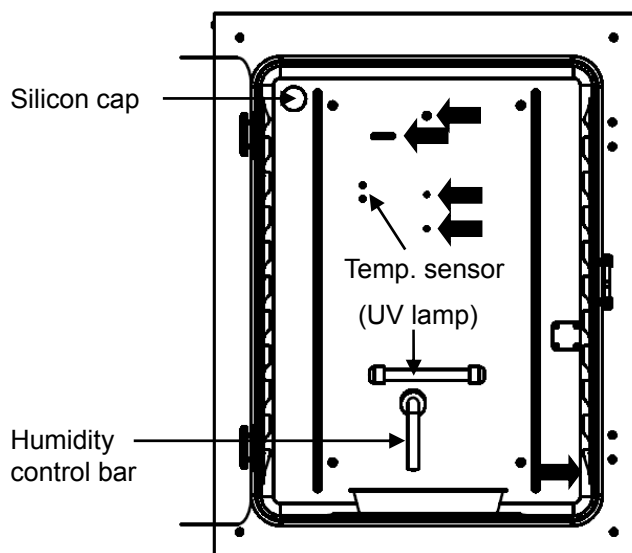

Fig. 2
Be careful to keep the diluted detergent or water out of the temperature sensor, the CO₂ gas injection port, the inner sample air access port, the fan motor shaft bearing, and the inner sample air outlet (Fig.2 ). Also, do not wash the temperature sensor and the UV lamp using detergent. Doing so may cause failure. (Fig. 2)
3. Pull out the humidifying pan (Fig. 2).